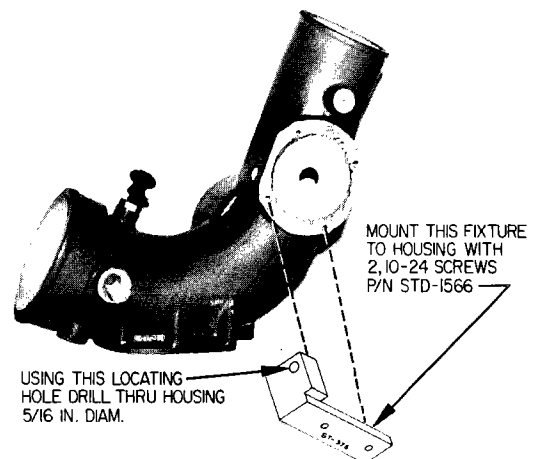

Figure 1. Air Inlet Housing Showing Location for Drilling
3. TIO-540-J2BD engines with serial numbers L-2751-61A thru L-2760-61A, L-2771-61A thru L-2773-61A, L-2780-61A, L-2782-61A thru L-2784-61A and LTIO-540-J2BD engines with serial numbers L-202-68A thru L-217-68A were manufactured with the hole drilled, tapped and plugged at the location shown in figure 1. Inspect the air inlet housing for the tapped 3/8-16 hole, if present remove bolt STD-1947, lockwasher STD-697 and washer STD-33. Proceed to step 13 for the installation of magneto pressure adapter.
7. Locate the drill fixture, ST-373 on the lower two mounting holes of pressure controlled pad with two STD-1566 (10-24) screws, so that the hole to be drilled is on the inside curve of the air inlet housing. See figure 1.